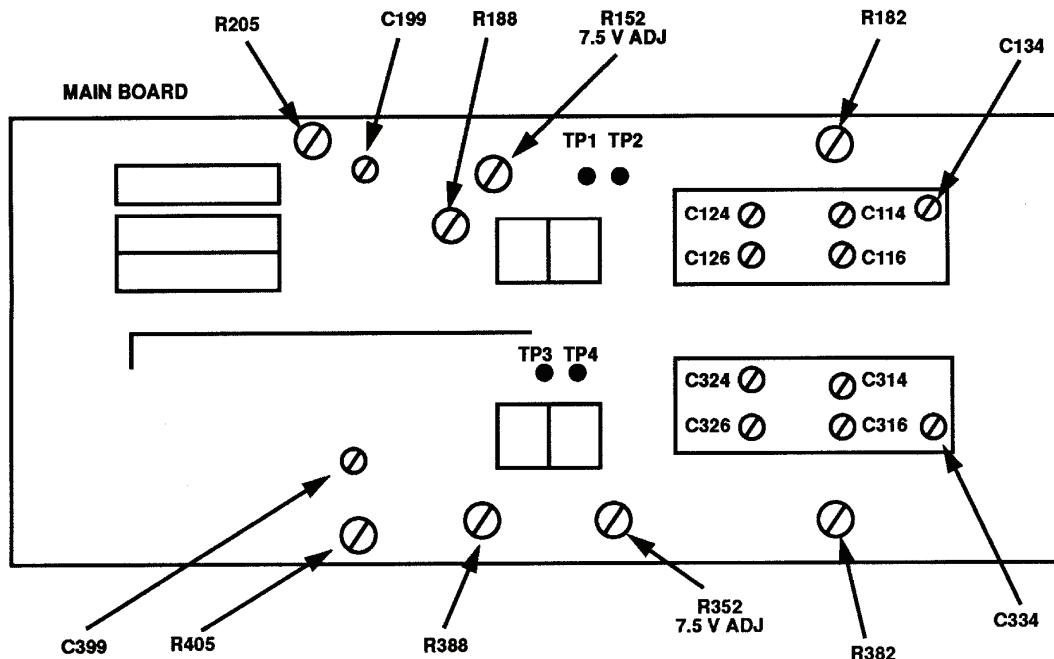

Figure 4. Test instrument - left-side view.
(4) Set oscilloscope calibrator **EDGE** output for 100 mV, 1 kHz and adjust **EDIT FIELD** knob for 5 divisions of vertical deflection on oscilloscope.
(5) If square wave level, roll off, or overshoot exceeds $\pm 4\%$, adjust C134 (fig. 4) for flat top on waveform.
- (6) Set TI **CH 1 VOLTS/DIV** switch to **50 m**.
- (7) Set oscilloscope calibrator **EDGE** output for 250 mV, 1 kHz and adjust **EDIT FIELD** knob for 5 divisions of vertical deflection on oscilloscope.
- (8) If square wave level, roll off, or overshoot exceeds $\pm 4\%$, adjust C124 (fig. 4) for flat top and C126 (fig. 4) for square corner on waveform.
- (9) Set TI **CH 1 VOLTS/DIV** switch to **.5**.
- (10) Set oscilloscope calibrator **EDGE** output for 2.5 V, 1 kHz and adjust **EDIT FIELD** knob for 5 divisions of vertical deflection on oscilloscope.
- (11) If square wave level, roll off, or overshoot exceeds $\pm 4\%$, adjust C114 (fig. 4) for flat top and C116 (fig. 4) for square corner on waveform.
- (12) Release **CH 2 GND** pushbutton to out position. Remove 24 pF normalizer from equipment setup and connect oscilloscope calibrator **SOURCE/MASURE CHAN 1** to TI **CH 1**.
- (13) Set TI **CH 1 VOLTS/DIV** switch to **2 m** and oscilloscope calibrator **VOLTAGE** output for 10 mV, 1 kHz. If necessary, adjust oscilloscope calibrator **EDIT FIELD** knob for a 0.0% **err** display indication.
- (14) Adjust R205 (fig. 4) for 5 divisions of vertical deflection on oscilloscope (R).
- (15) Set TI **CH 1 VOLTS/DIV** switch to **10 m** and oscilloscope calibrator **VOLTAGE** output for 50 mV, 1 kHz.
- (16) Adjust R188 (fig. 4) for 5 divisions of vertical deflection on oscilloscope (R).
- (17) Connect oscilloscope calibrator **SOURCE/MASURE CHAN 1** to TI **CH 2** using 24 pF normalizer.
- (18) Set TI **CH 2 VOLTS/DIV** switch to **20 m** and press **CH 1 GND** pushbutton to in position.
- (19) Set delaying time base **MAIN SEC/DIV** switch to **1 m**.
- (20) Set oscilloscope calibrator **EDGE** output for 100 mV, 1 kHz and adjust **EDIT FIELD** knob for 5 divisions of vertical deflection on oscilloscope.
- (21) If square wave level, roll off, or overshoot exceeds $\pm 4\%$, adjust C334 (fig. 4) for flat top on waveform.
- (22) Set TI **CH 2 VOLTS/DIV** switch to **50 m**.
- (23) Set oscilloscope calibrator **EDGE** output for 250 mV, 1 kHz and adjust **EDIT FIELD** knob for 5 divisions of vertical deflection on oscilloscope.
- (24) If square wave level, roll off, or overshoot exceeds $\pm 4\%$, adjust C324 (fig. 4) for flat top and C326 (fig. 4) for square corner on waveform.
- (25) Set TI **CH 2 VOLTS/DIV** switch to **.5**.
- (26) Set oscilloscope calibrator **EDGE** output for 2.5 V, 1 kHz and adjust **EDIT FIELD** knob for 5 divisions of vertical deflection on oscilloscope.
- (27) If square wave level, roll off, or overshoot exceeds $\pm 4\%$, adjust C314 (fig. 4) for flat top and C316 (fig. 4) for square corner on waveform.
- (28) Release **CH 1 GND** pushbutton to out position. Remove 24 pF normalizer from equipment setup and connect oscilloscope calibrator **SOURCE/MEASURE CHAN 1** to TI **CH 2**.
- (29) Set TI **CH 2 VOLTS/DIV** switch to **2 m** and oscilloscope calibrator **VOLTAGE** output for 10 mV, 1 kHz. If necessary, adjust oscilloscope calibrator **EDIT FIELD** knob for a 0.0% **err** display indication.
- (30) Adjust R405 (fig. 4) for 5 divisions of vertical deflection on oscilloscope (R).
- (31) Set TI **CH 2 VOLTS/DIV** switch to **10 m** and oscilloscope calibrator **VOLTAGE** output for 50 mV, 1 kHz.
- (32) Adjust R388 (fig. 4) for 5 divisions of vertical deflection on oscilloscope (R).
- (1) Position controls as listed in (a) through (c) below: